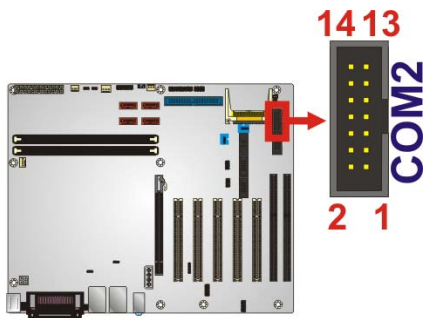

Figure 3-14: RS-232/422/485 Serial Port Connector Location
- CN Location: See **Figure 3-14**